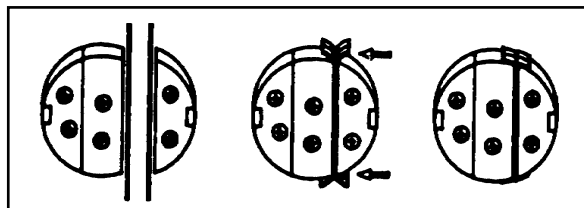

FIGURE 18 - TAPE FOLDING BACK
8.07 While tightening, the excess LOCK-TAPE Sealant extending from the End Plate section will fold back. When the LOCK-TAPE Sealant stops moving (folds back), the bolts are sufficiently tight. (Figure 18)